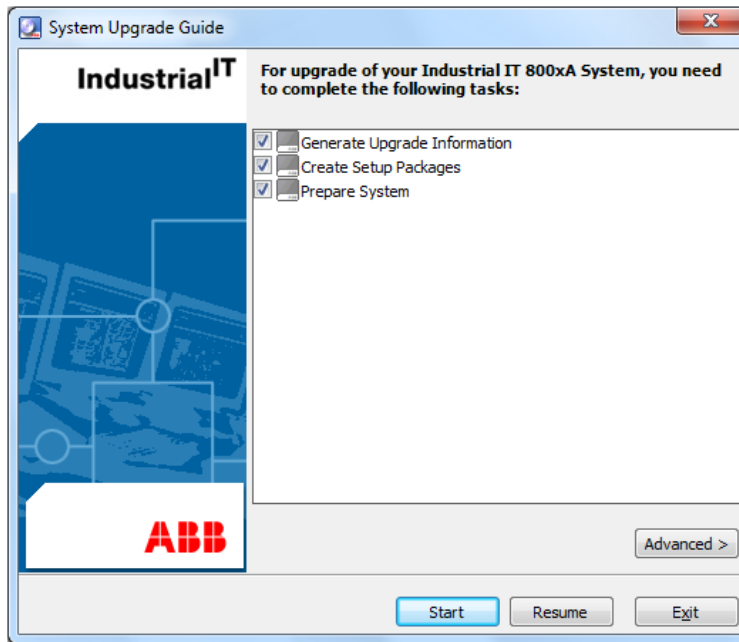

Figure 47. System Upgrade Guide
4. Double-click ShellUpgrade.exe to launch the System Upgrade Guide (Figure 47).
7. Follow the instructions on the Upgrade Wizard pages until reaching the initial System Upgrade Wizard dialog box (Figure 47) and click **Exit**.